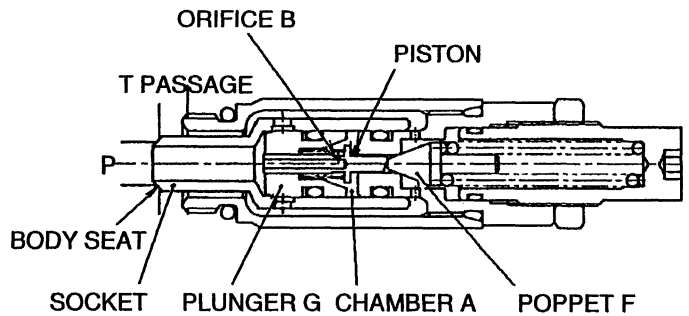

Fig. 2-31
4) If the pressure at port P falls below a set value of spring C, the poppet F is pressed against the seat by the action of spring C. As the result, the pressure of chamber A equals that of port P. This presses the plunger G against the socket seat and brings it back where it was. (Fig. 2-31)